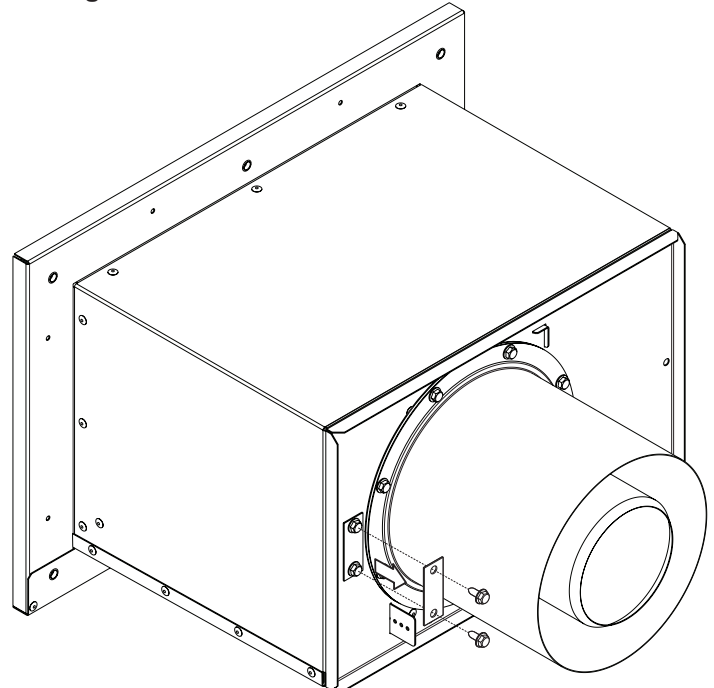

Figure 28
2. Remove the cover from the rear side of the unit by removing the 2 #10 X 1/2 inch screws shown in **Figure 28**.